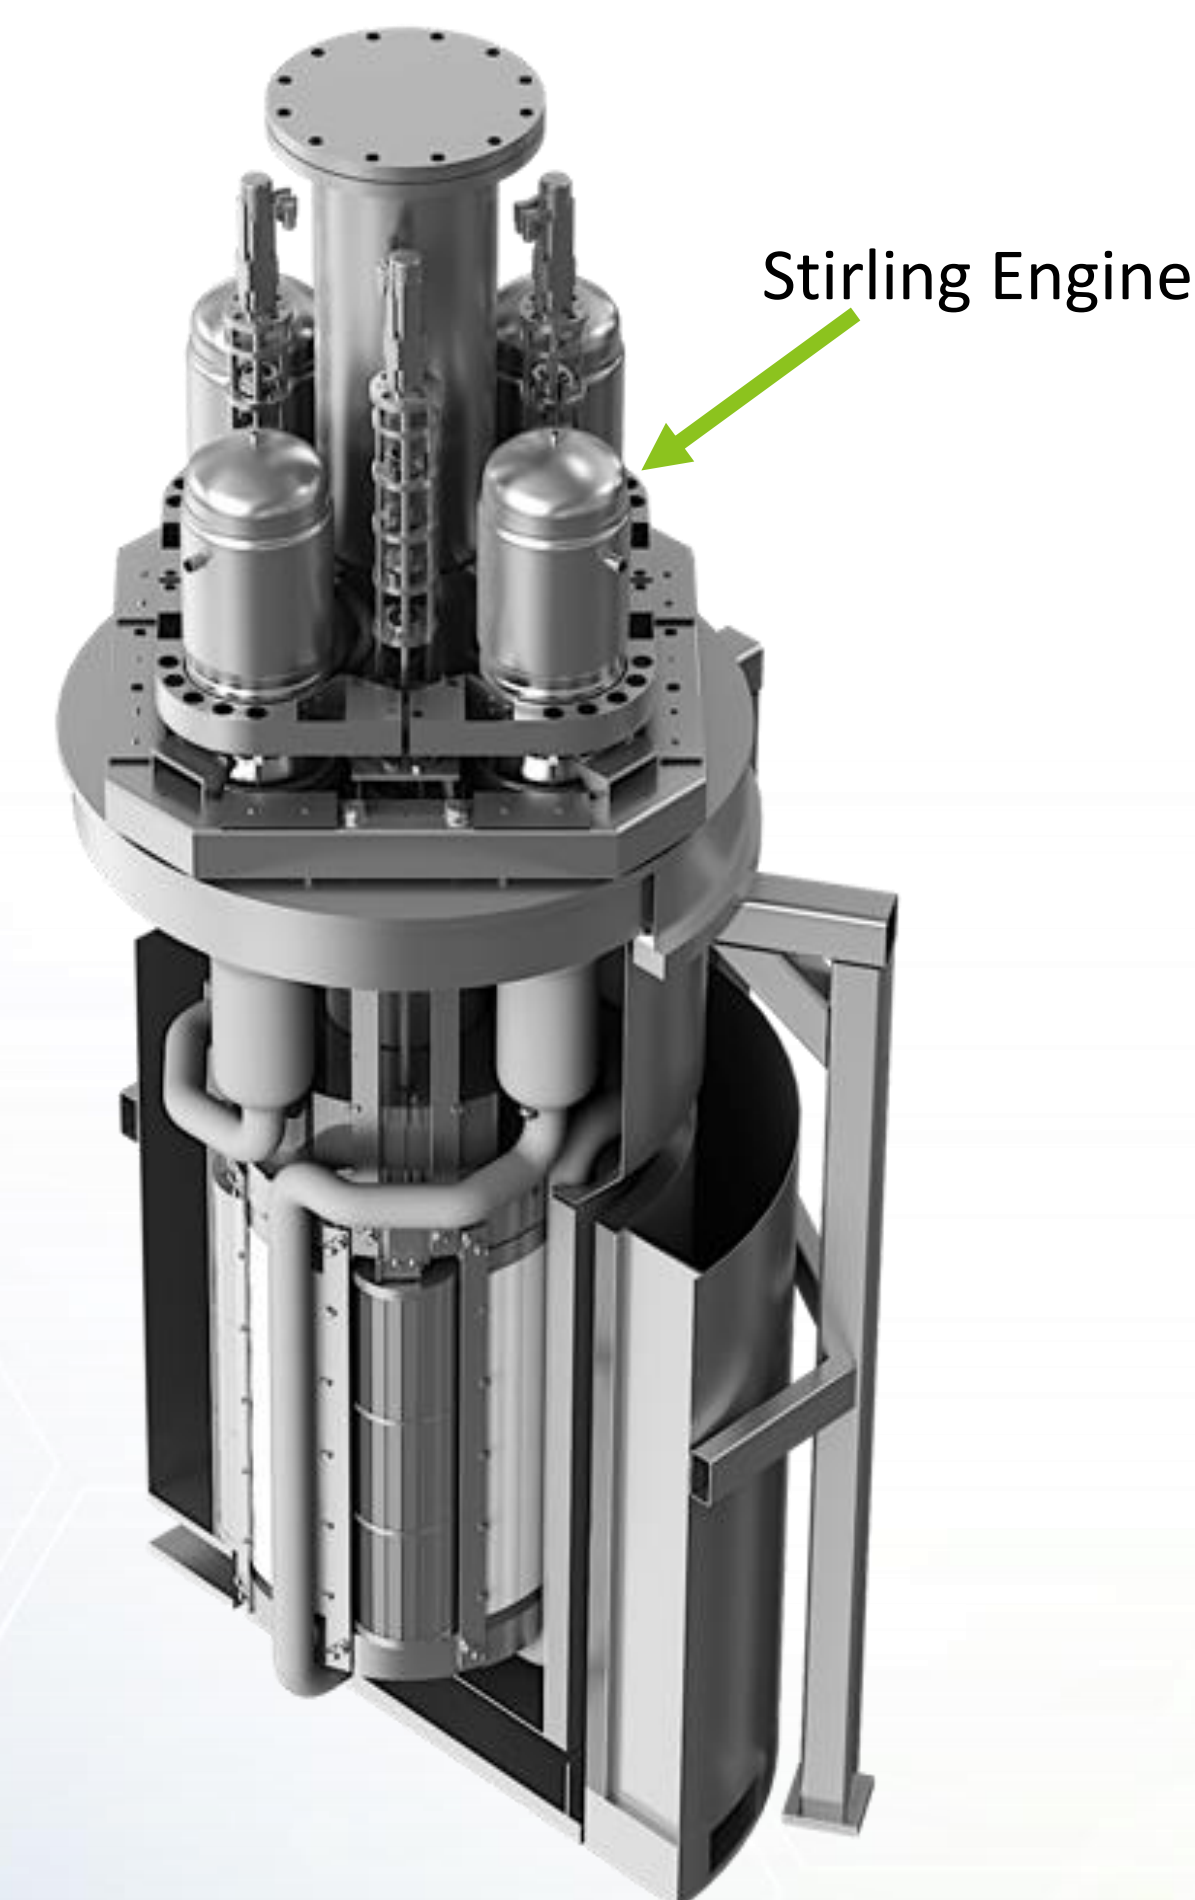

Figure 1: MARVEL reactor 3D model
- The HGHEs is designed to attach to the reactor at one of the Stirling engine locations as show in Figure 1. The heat from the reactor is then transported to a Thermal Storage Unit (TSU) through a helium coolant system.